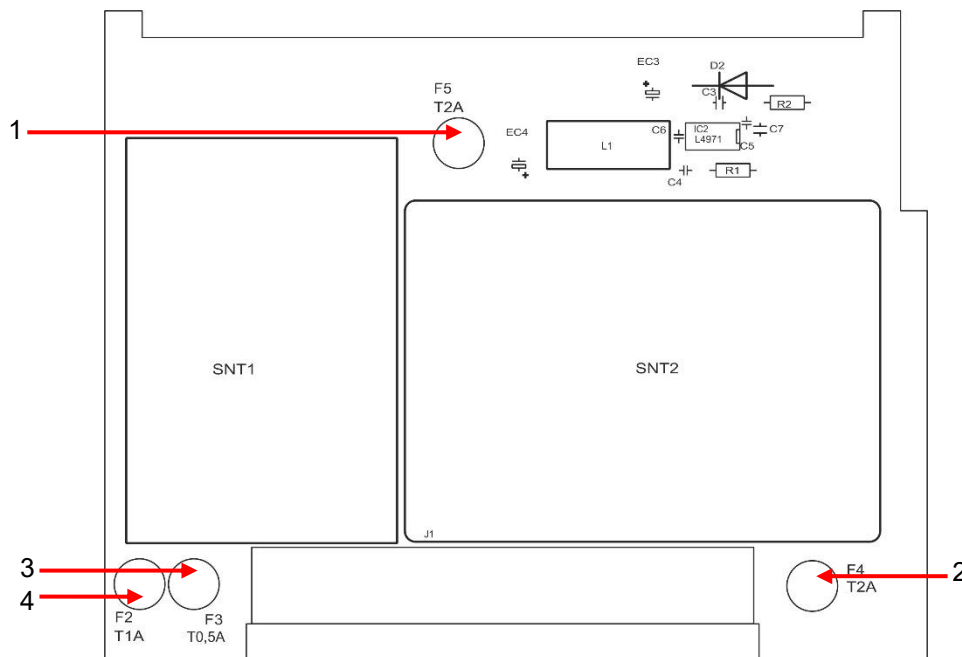

Figure 36
These fuses protect the Testomat® PRO CLF device or outputs against overload and short circuit. All fuses are pluggable. The main fuses F1 (1) and F6 (2) (4 A MT) for outputs and equipment are located on the motherboard (see figure 36). The power pack includes the four primary and secondary fuses, F2 to F5 for 24V and 12V, 3.3V